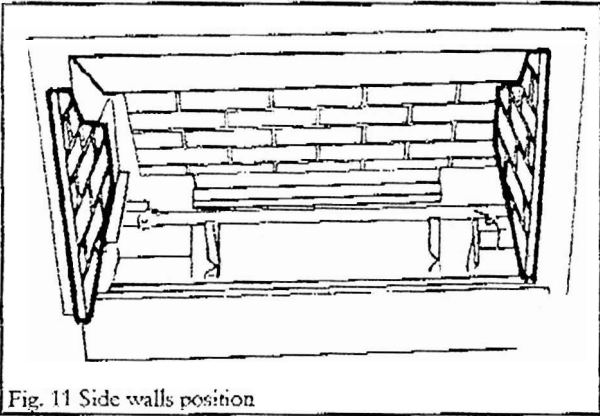

Fig. 11 Side walls position
- 12.2 Place the ceramic side walls in position at the sides of the firebox. The sides are left and right handed. The sides should locate in the sloping channels near the bottom of the firebox sides and in the gap between each side of the firebox and the black top baffle (see figure 11).